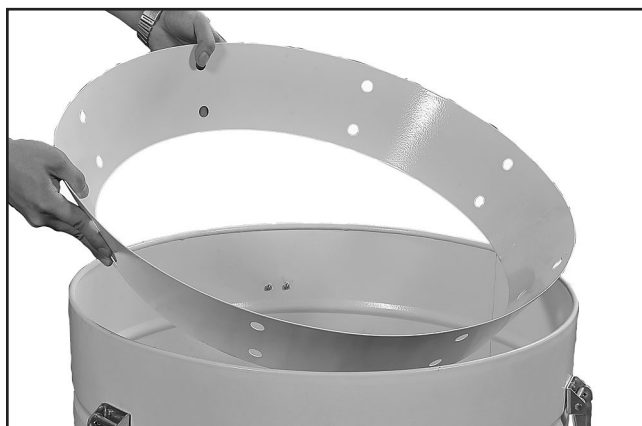

Figure 27. Inserting collection drum vacuum ring.
17. Place the collection drum vacuum ring on the bottom of the collection drum (see **Figure 27**).